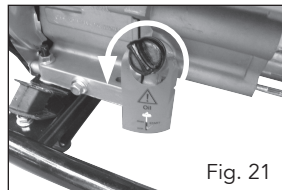

Fig. 21
2. Remove the oil filler cap (11) (Fig. 21).